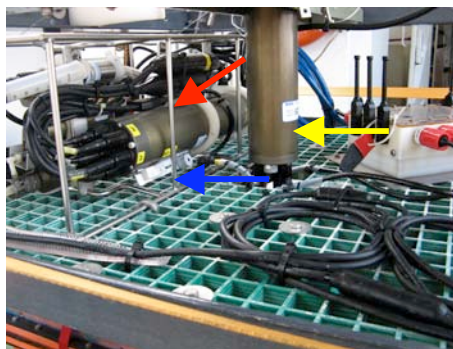
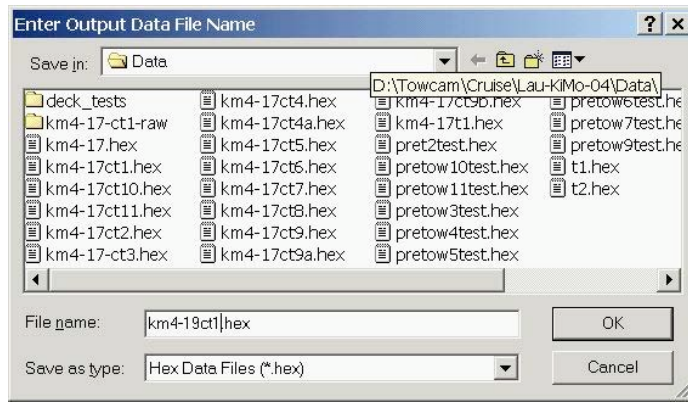

Figure 16B. SBVE25 CTD on top deck of NTU TowCam (red arrow). Blue arrow points to On/Off switch. Yellow arrow points to electronics housing for SBE32 pylon
Figure 21B. The PC laptop window where you enter the file name for the camera lowering. The directory path is shown at upper right.
- Go to the window where you entered the file name for the upcoming tow (Figure 21B) and click on the 'Start Acquire' button (blue arrow in Figure 21B).
Figure 21A. Entering output name of the CTD file is done by clicking on the RealTime Data menu in the Acquisition Screen (Figure 20) and scrolling to Start Acquisition. That pulls up the dialog box shown in Figure 21B where you can enter the file name for the lowering. Click on the 'Enter Output File Name' button and the window shown in Figure 16B will appear. Use a convention of: "ct1" for the file name. Be sure to keep the '.hex' suffix. Blue arrow points to the 'Start Acquire' button which you click on after the SBE33 Deck Box is ON and the green status light is flashing – which confirms that serial data is being sent to the laptop. This will start the CTD data acquisition. Note the time in the log.